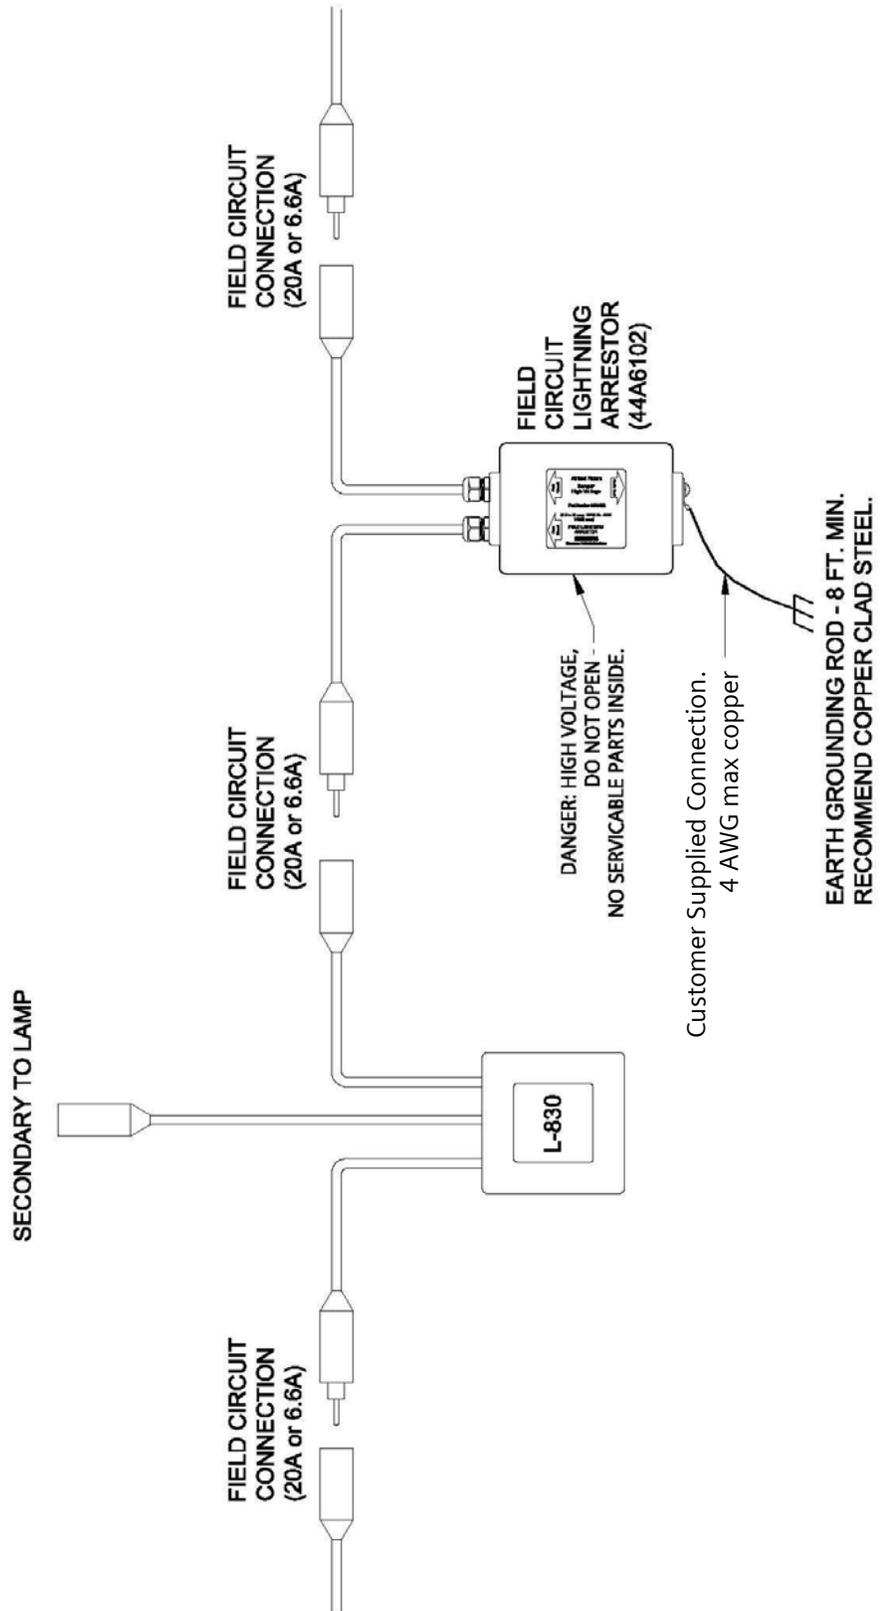

Figure 5. Typical Circuit Wiring Diagram
3. Plug in the lightning arrestor as shown in the wiring diagram. See Figure 5 and hook-up label on enclosure.